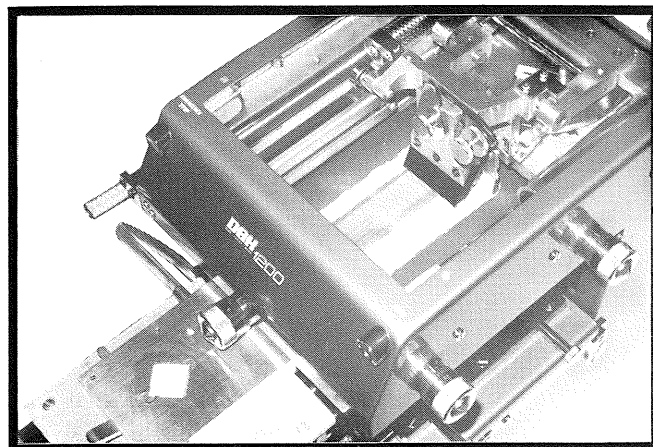
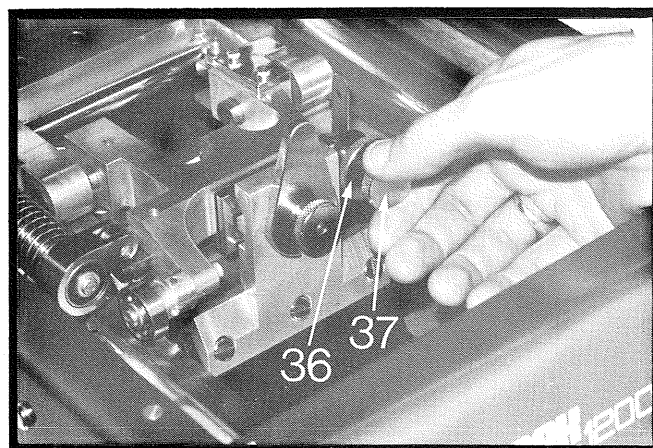

Fig 44
Fig 45
- C 13 If squeegee is wiping clean on one side only (Fig 44), it is not parallel with the screen surface and workpiece. Adjust as follows (Fig 45):
- 1) Slacken knurled locking nut (36);
- 2) Turn knurled screw (37) very slightly, clockwise to lower right hand side, anticlockwise to lower left hand side;